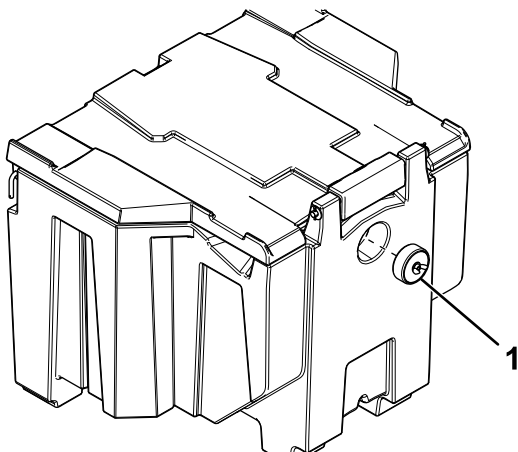

Figure 20
5. Install the cube plug in the auger opening (Figure 20).